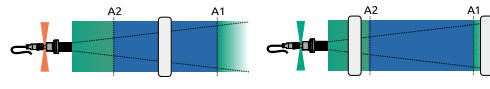

Figure 19 - Trigger on out of range: on approach (S < A2) or on approach (S > A1)
- The output signal toggles when an object is at a certain distance (S) within or out of the set range. The working principle is shown in Figure 19. When the object is not in or out of the set range, the output turns off. The user range needs to be set during operation:  $A1 > A2$ .